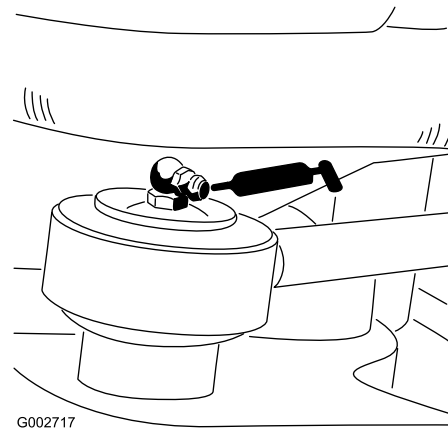

Figure 23
- Steering cylinder rod end (1)—Model 08705 only (Figure 23)